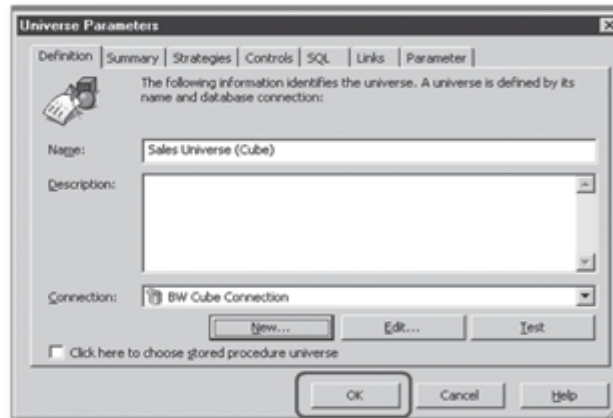

Figure 13.10 Create the Universe Based on a Cube
8. After the connection is defined correctly, we're ready to create our new universe based on the sales cube (Figure 13.10). Click on OK to create the universe.